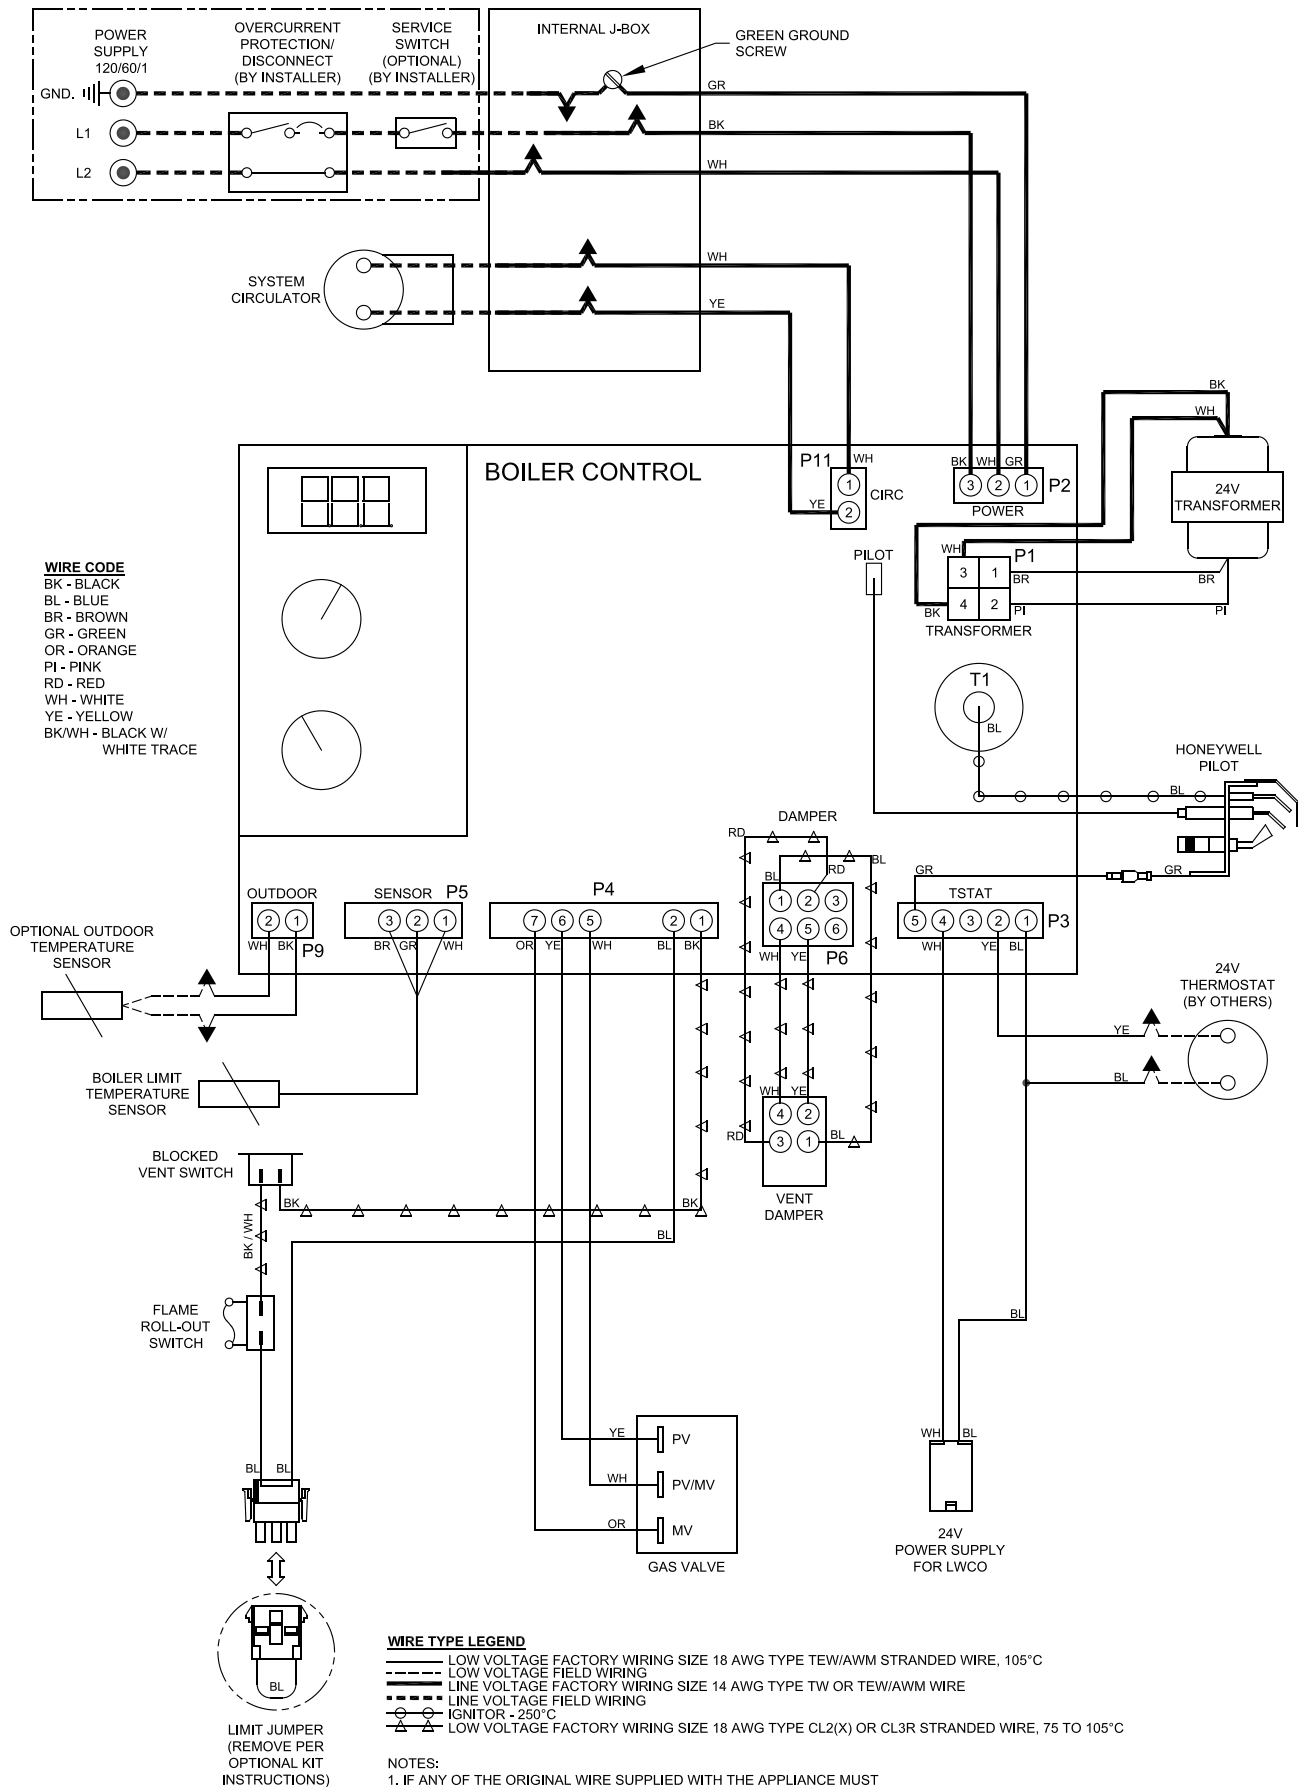

Figure 9: Wiring Connection Diagram
- C. Wire boiler.** Boiler is rated for 120 VAC, 60 hertz, less than 12 amperes. A separate electrical circuit must be run from the main electrical service with an over-current device/disconnect in the circuit. A service switch is recommended and may be required by some local jurisdictions. Connect to black and white wires and green ground screw. See Figures 9 and 10.